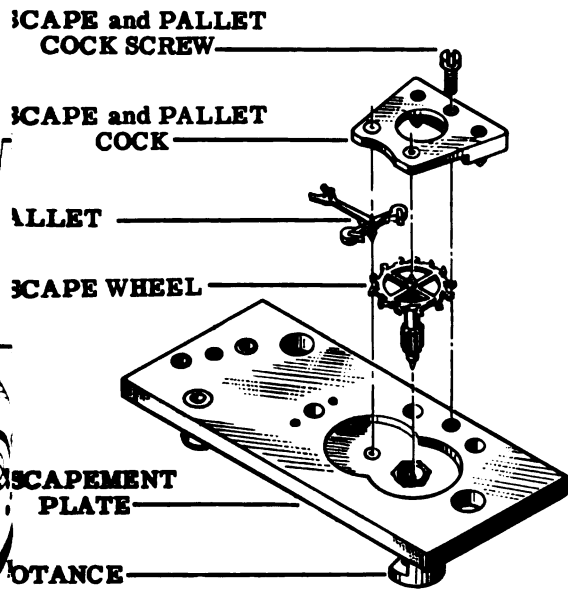
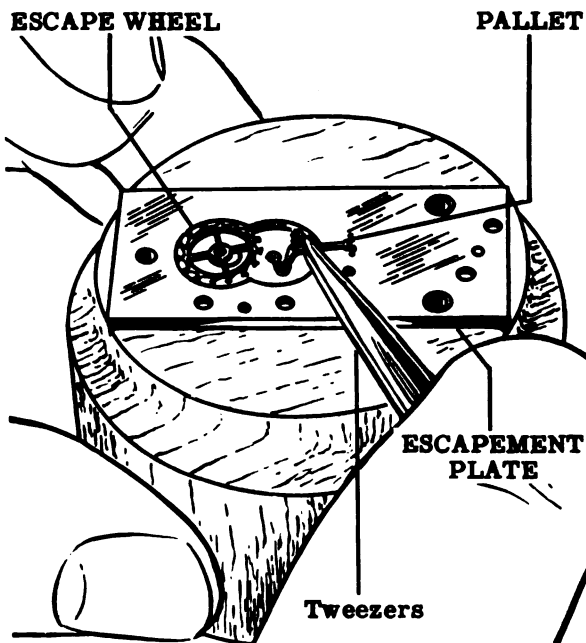
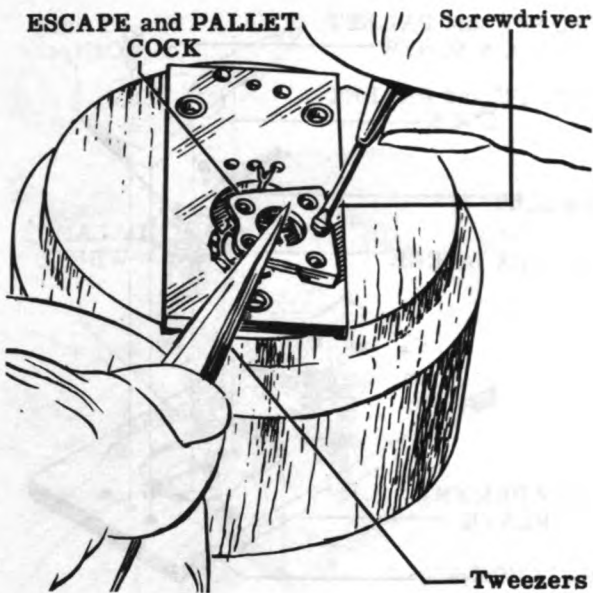

Figure 73—"New" Seth Thomas Escapement
Figure 76
Figure 77
8. Examine the escape wheel with a high-powered eyeglass, checking for bent or scored pivots and worn escape teeth. If any defect is noted, discard the escape wheel and replace with a new one. Place the escape wheel in its position on the escapement plate so that its pinion projects down into the potance. See Figs. 73, 74 and 75.
- No other repairs to the pallet are recommended. If they are required, the entire pallet assembly should be replaced. Place the pallet in its position on the escape plate. See Fig. 76 and also Figs. 73, 74 and 75.
11. Mount the escape and pallet cock onto the escapement plate with its single screw. See Fig. 77 and also Figs. 73 and 75.